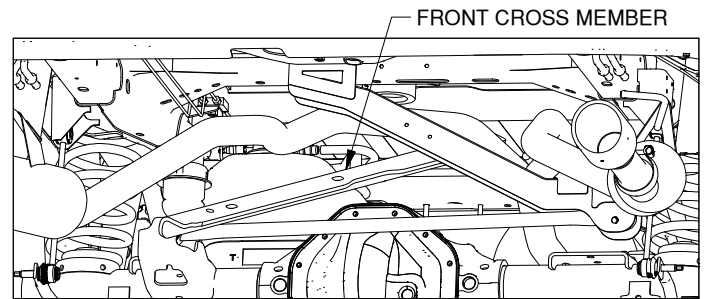
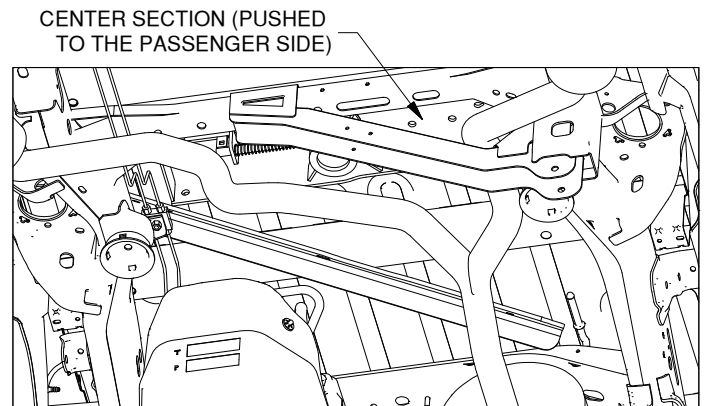

Figure C3: View looking under truck bed toward the cab.
Figure C4: View looking up under truck bed. (Axle not shown)
3. **Position the front cross member (dual and single exhaust).** The front cross member is the 2" x 2-1/2" angle with five holes in one flange. While holding the front cross member in an inverted "V" with the flange with holes in it toward the passenger side of the truck, move the cross member over the driver side of the rear axle, as shown in Figure C3. Lift the trailing end toward the rear of the truck over the driver side frame rail, see Figure C4. Slide the cross member toward the driver side until the leading end of the cross member can be placed on top of the passenger side frame rail. It may be necessary to adjust the wiring in the driver side wheel well to give the cross member clearance on the frame. When the cross member is spanning both frame rails, push the front cross member forward to make room to install the center.